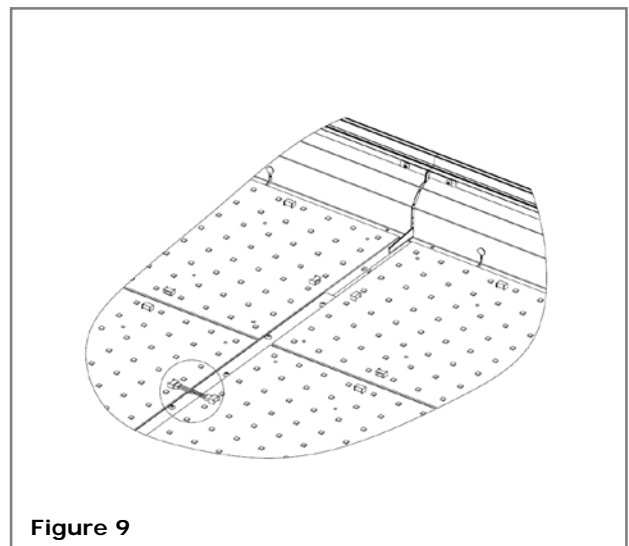

Figure 9
4. Inspect the splice joints between sections. Connect any loose jumper cables that span across the splice joint by inserting the end of the jumper into the connector located on the adjacent LED board. **See Figure 9**